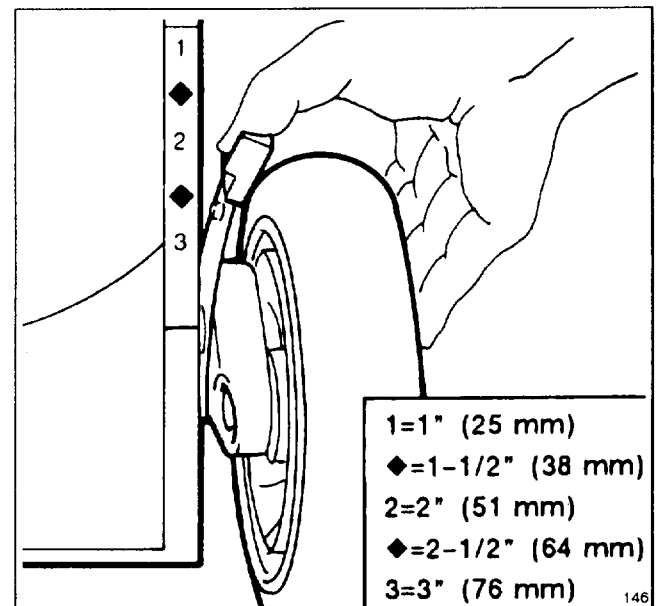

Figure 10
Three numbers cast into the housing represent the height—of—cut settings. The diamond between each number represents a 1/2" increment (Fig. 10).
2. For easier adjustment, lift housing up so wheel is off ground. **Do not put fingers under housing when lifting.** Squeeze adjusting lever toward wheel and move to desired setting (Fig. 10). Ensure pin on adjusting lever engages notch in housing. Adjust all wheels to the same setting.